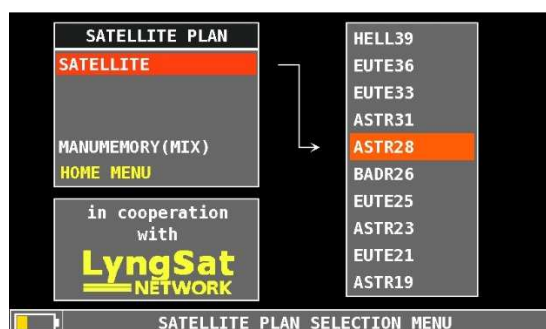
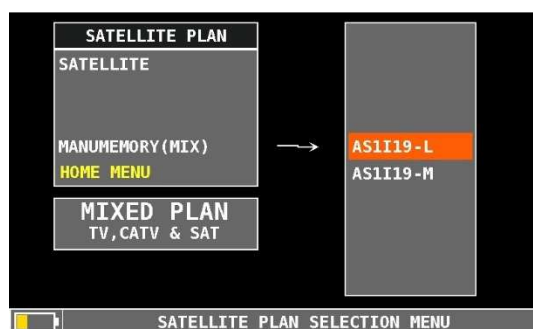

Fig.1 List of pre-memorized programme files.
Fig. 2 List of user generated programme files.
A logger is run against a MEMORY plan. A Memory plan is a file which contains a given number of programmes. These programmes may be transponders, TV MUXes or a combination of both. There are memory plans which are pre-memorized in your meter (ref. fig.1), these are the Satellite transponders, one file for every orbital position. There can be also MANUAL memory plans (ref. fig.2), which are defined by the user with any type of signal. A MANUAL memory plan can have SAT and TV programmes in the same file. The manual programme files may be generated on the meter itself or uploaded to the meter using the Rover SMART programme (ref. www.roverinstruments.com, SW update area).
Update your meter with the latest available Firmware: greater than version 2.33 and upload to your meter the "chn" memory plan available for the HD TAB 4 TOUCH in the Rover web site section SW Update. There are two Memory plan files (CHN). The first one contains all transponders sorted by Polarization (H and V), this ease measurements when aligning a dish with a Wide Band LNB, there are two cables coming from an LNB, with one polarization each (Horizontal and Vertical). After uploading this file to your meter, it will show, in its name, an "L" as a suffix, that stands for LNB (Ref. fig.2).
The second chn file has all transponders sorted by frequency, this ease measurements when using a dCSS or dSCR Multiswitch output. After uploading to your meter, this Manual channel plan will show, in its name, an "M" as a suffix, that stands for Multiswitch (Ref. Fig. 2).
- Press the **PLAN** key and select one of the "chn" PLANs mentioned above, ref. fig. 2.
b) The MANUAL "chn" files with the "L" suffix, contains only transponders which are inside the converted L band of the meter. If you select any other satellite in the pre-memorized "SATELLITE PLAN" list (ref. fig.1), you may work with a Wide Band LNB but transponders will not be grouped as Vertical and Horizontal. You may do this grouping utilizing the SMART programme.